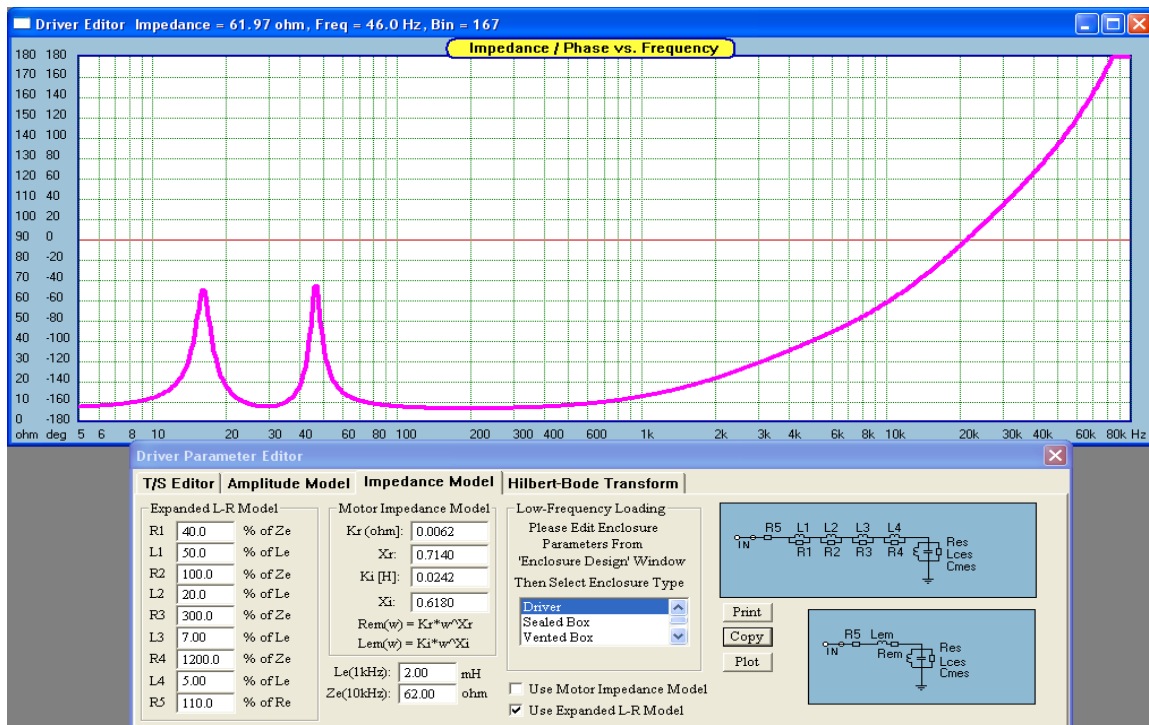

Fig 2.16 Impedance Models
Manual entry of impedance curve is accomplished much the same as the previously described amplitude response - drawing the curve and then using cursor keys to fine tune the plot. The default impedance curve is plotted at 80ohm level. At any point of time, the user can flip between frequency response and impedance curve using 'Edit Amplitude' and 'Edit Impedance' buttons. The currently edited curve will be saved and the newly selected one plotted on the screen. Once again, the 'Edit Impedance' button should be used to clean up the display. See Fig 2.16. Once the whole (5Hz - 100kHz) impedance curve is edited, it can be used as a template for recovering complex impedance. Editing impedance curve over the whole frequency range is important. Slope Correction is also provided for the impedance. This is accomplished via 'Hilbert Transform Function' screen, which was also used for recovering amplitude transfer function.
Two editable impedance models: (1) Quad-LR model and (2) Motor Impedance model, are provided and can be accessed via the main menu. See Fig 2.16. The Quad-LR model requires voice coil inductance as provided by data sheets, often measured at 1kHz and impedance minus DC resistance measured at 20kHz. The four LR sections are then assigned a **percentage** of the values above to fit any given impedance curve. Also R5 in the model can be different from the DC resistance of the driver.
In the second example, shown on Figure 2.16, is a “quad-box”. The box is quite large (400 lt) and would be suitable for 4 x 13” low-frequency drivers intended for a bass guitar application. Bracing used is the same type as in the first example. Please note, that the port required to do the job, is actually quite short (14.78cm) and you could afford to increase the diameter of the port in order to reduce port compression/non-linearity effects.